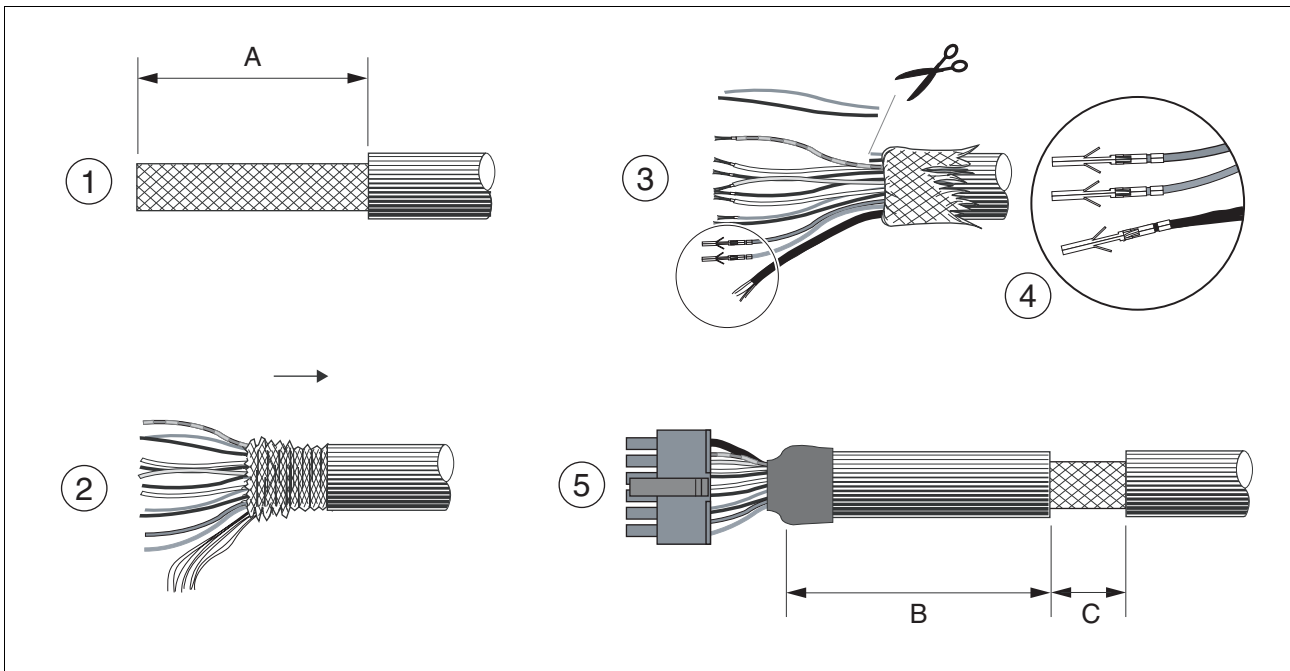

Figure 6.13 Steps (1-5) for fabrication of the sensor cable
- ▶ Use prefabricated cables to minimise the risk of a wiring error (from page 12-2). Step 5 in Figure 6.13 must be carried out even with pre-fabricated cable. The dimensions for positioning the shield on the housing are applicable when the included EMC plate is used.
- ▶ If you are not using prefabricated wiring, follow the procedure and the dimensions in Figure 6.13.